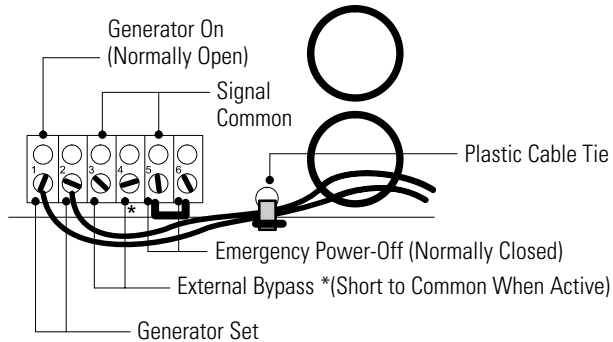

Figure 24. Input Control Signal Wiring
11. If any external, hardwired control signals are required, remove the rear panel on the upper section of the cabinet and locate the terminal block, as shown in Figure 24.